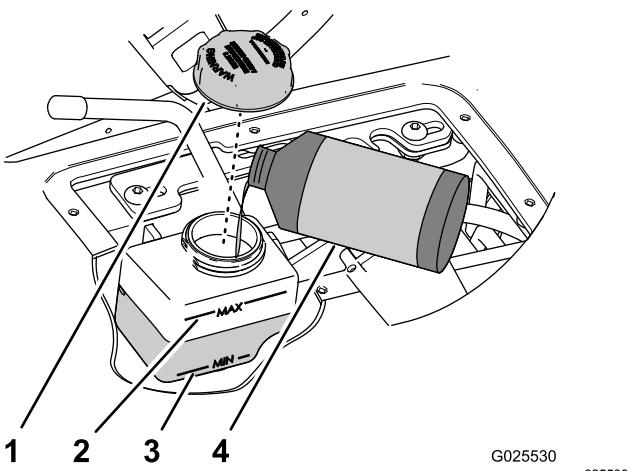

Figure 61
- Wipe clean the area around the cap for the reservoir (Figure 61).
- Remove the cap from the reservoir (Figure 61).
- Add the specified fluid to raise the level midway between the Min and Max marks on the side of the reservoir (Figure 61).
- Install the cap hand tight (Figure 61).
- Check the fluid level in the reservoir for the speed-control cylinder (Figure 61).